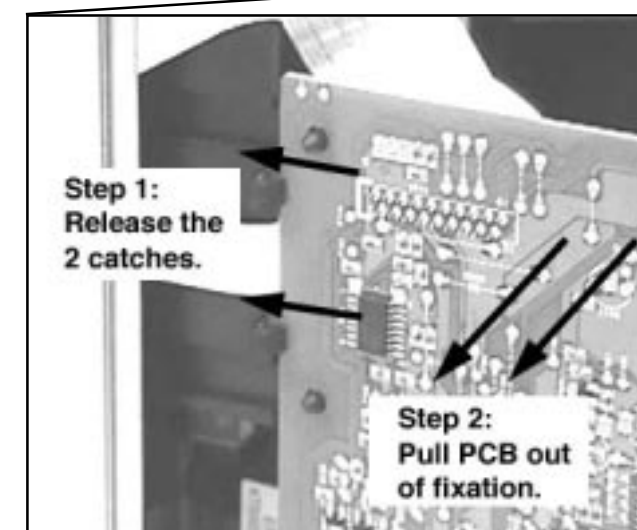
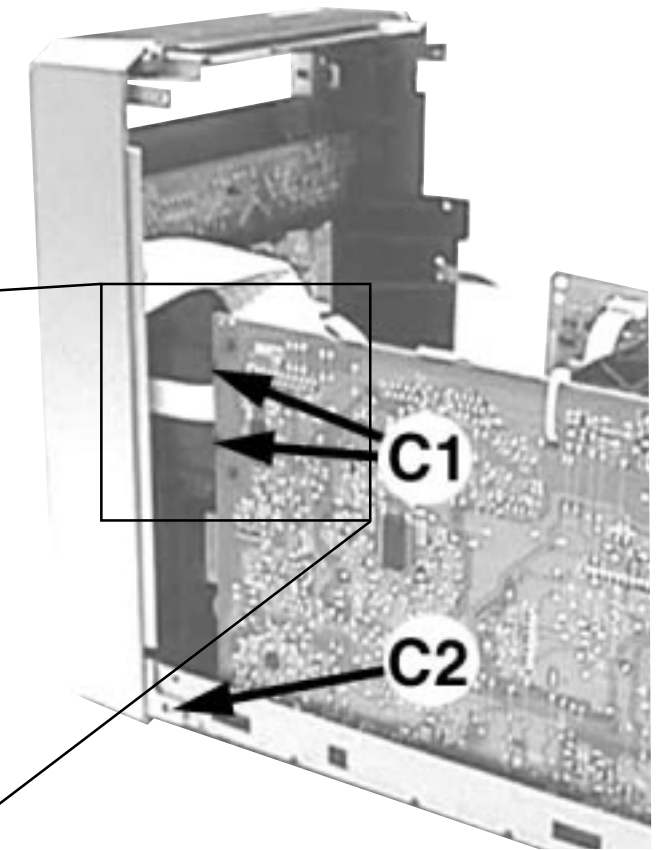

Figure 7A
Figure 7
- 2) Release the fixation of the Combi Board (pos 1102-1003) to Bracket Combi (pos 155) by releasing the 2 catches C1 (see Figure 7) and pulling the Combi Board outwards as shown in Figure 7A.
- 3) Uncatch 2 catches C2 (see Figure 7) on the left & right sides of the Cabinet Front (pos 101) and slides the Front Panel assembly out towards the front.